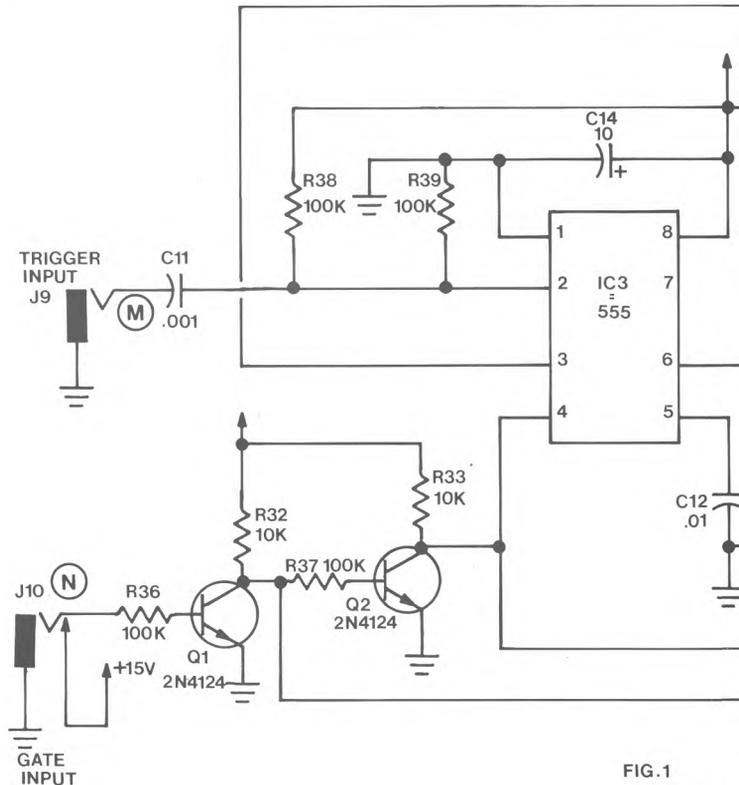

FIG. 1
**How it works.** Referring to figure 1, note that since I built the ADSR as part of a Dual ADSR/Dual VCA module (the VCA was covered last issue), the circuit designations start up where they left off last time. The resistors start at R29, the capacitors at C11, and ICs at IC3 and so on.